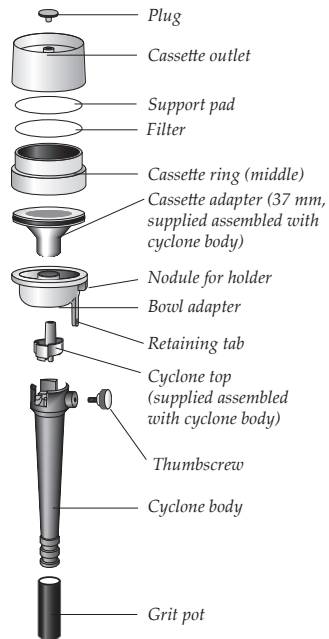

Figure 1.
Assembling Cyclone with Standard 37 or 25-mm 3-piece Cassette (Figure 1)
1. Prepare a cyclone/cassette assembly (Figures 1 and 2). Ensure grit pot remains on cyclone body during calibration.